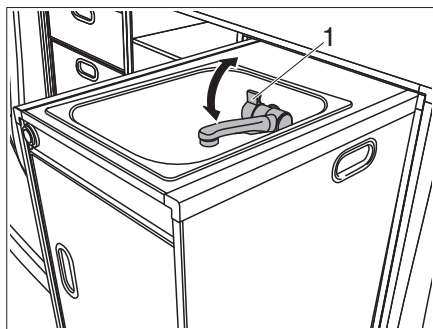

Fig. 43 Sink with water tap
The vehicle is equipped with an installed water canister. An electric water pump pumps the water to the water tap (Fig. 43,1). Opening the water tap automatically switches on the water pump and pumps water to the tap.
- Turn the water tap (Fig. 43,1).
- Turn the water tap (Fig. 43,1) back.